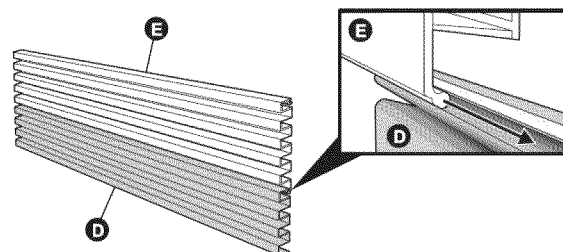

Figure 2
- Slide top grill (E) and bottom grill (D) together. Make sure the ends are flush then tape together to prevent parts from sliding. See Figure 2.